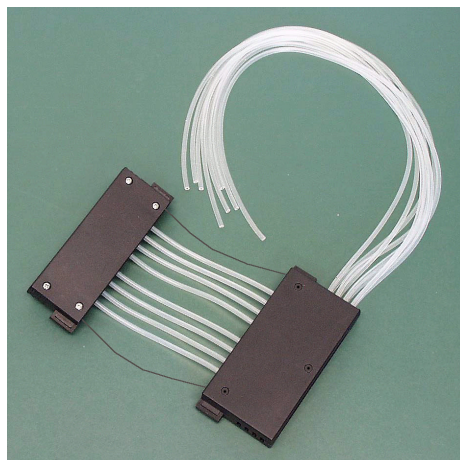

Fig. 7.28 Ensuring the tubing does not get trapped
13. Ensure you do not get the tubing trapped or bent between the bottom and upper cover of the upper part of the dispensing cassette (Fig. 7.28).